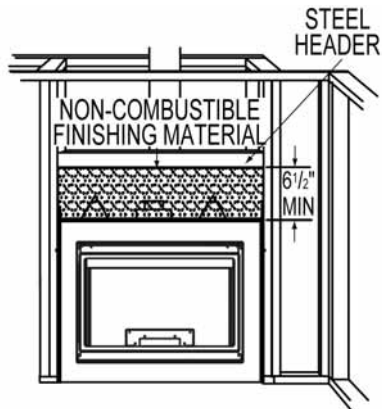

FIGURE 84
* If this unit is installed flush to the finishing material and optional clean face surround is to be installed then a minimum of 6 3/4" of cement board or non-combustible equivalent must be used on the top only of the front face. See Figure 84